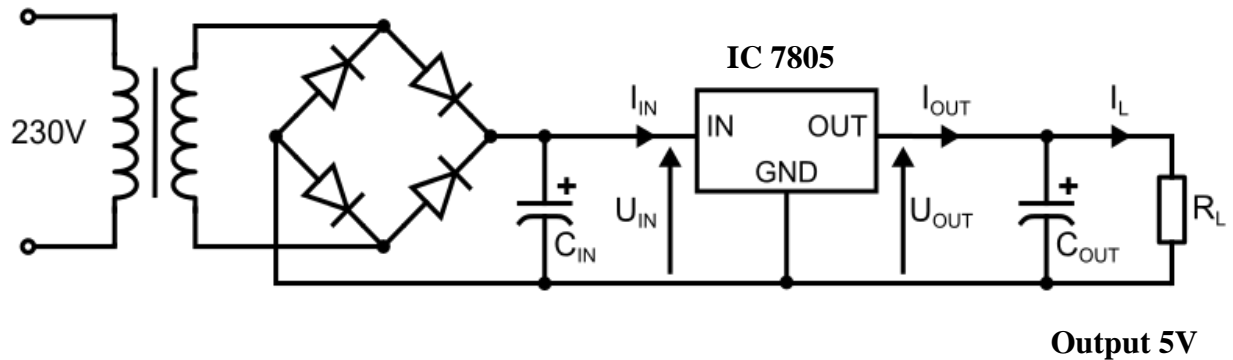

Figure 1.2: Regulated Power Supply Circuit
The IC Regulated power supply (RPS) is one kind of electronic circuit, designed to provide the stable DC voltage of fixed value across load terminals irrespective of load variations. The main function of the regulated power supply is to convert an unregulated alternating current (AC) to a steady direct current (DC). The RPS is used to confirm that if the input changes then the output will be stable. This power supply is also called a linear power supply, and this will allow an AC input as well as provides steady DC output. (Figure 1.2)